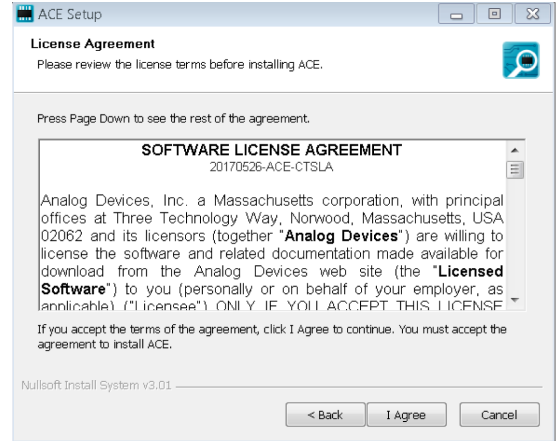

Figure 4. License Agreement
5. Read the Software License Agreement, and click **I Agree** (see Figure 4).